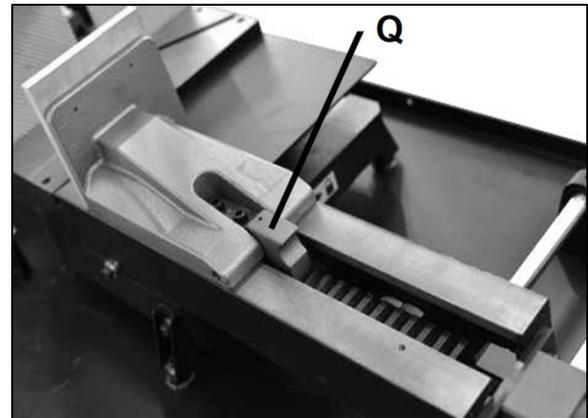

Figure 7-5: Vise pawl and rack
- Use switch (L) to open the vise by hydraulic cylinder.
- Lift and disengage the vise pawl (Q, Fig 7-5). Open the vise by hand.